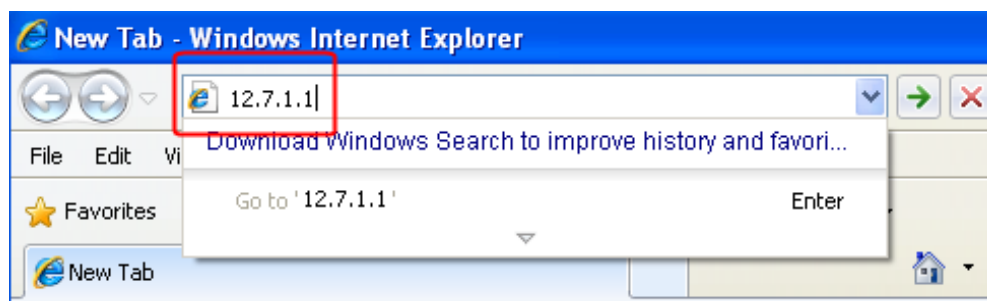

Figure 2-9 Connecting to WebOMT
- Open a browser window and enter the assigned default gateway into the navigation bar. This will access the WebOMT page. Figure 2-9 shows an example using 12.7.1.1 as the default gateway.